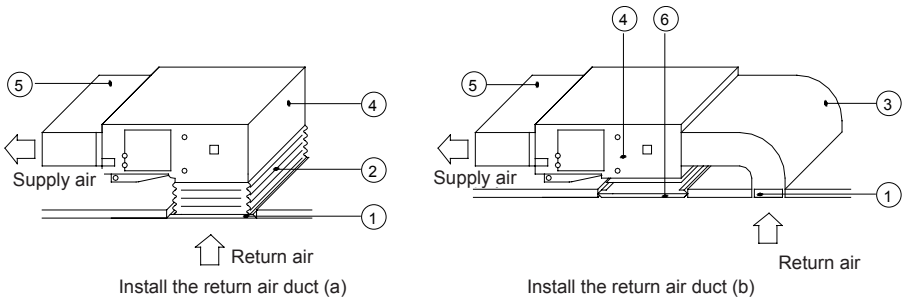

Fig.38 Install the return air duct
- (3). If the bottom return air is desired, just change the place of the rectangular flange and the return air cover plate.
- (4). Connect one end of the return air duct to the return air outlet of the unit by rivets and the other to the return air louver. For the sake of the convenience to freely adjust the height, a cutting of canvas duct will be helpful, which can be reinforced and folded by 8# iron wire.
- (5). More noise is likely to be produced in the bottom return air mode than the backward return air mode, so it is suggested to install a silencer and a static pressure box to minimize the noise.
- (6). The installation method can be chosen with considering the conditions of the building and maintenance etc., as shown in Fig.38.